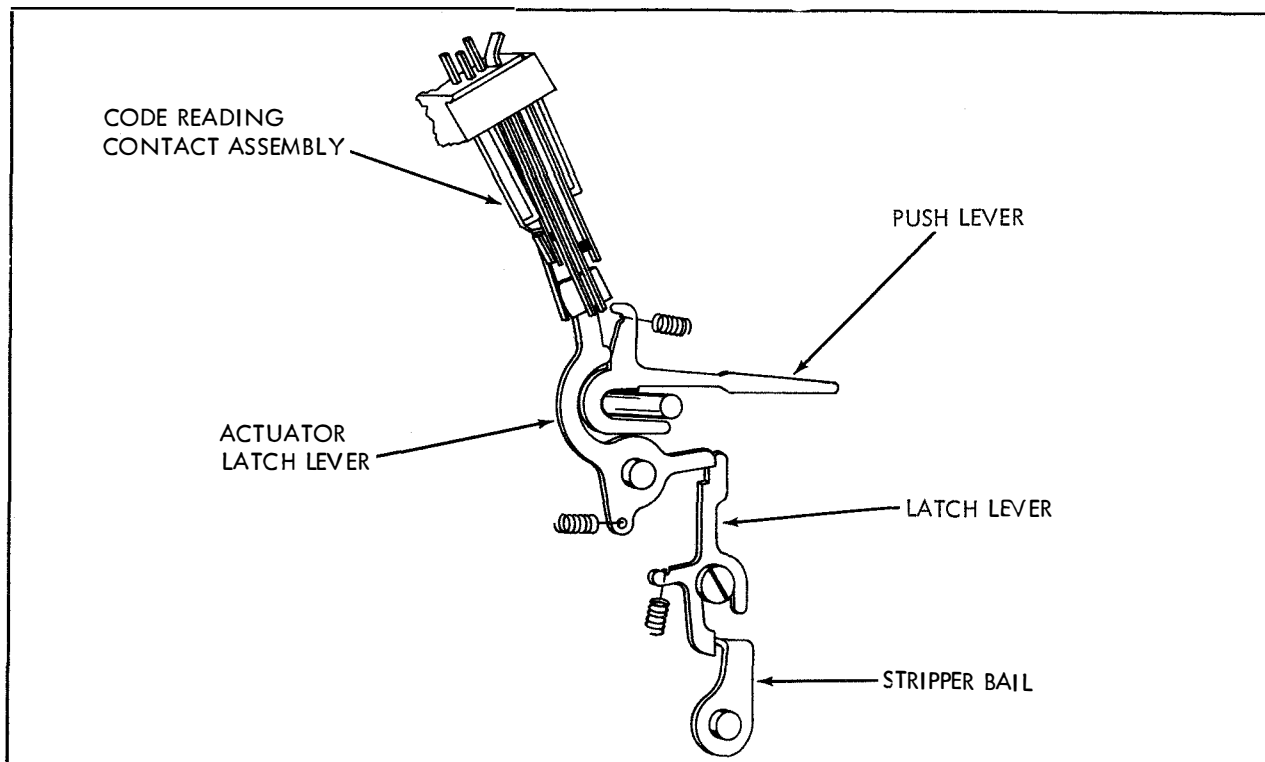

FIGURE 6-5. TRANSFER MECHANISM
(2) Transfer Mechanism (Figure 6-5)